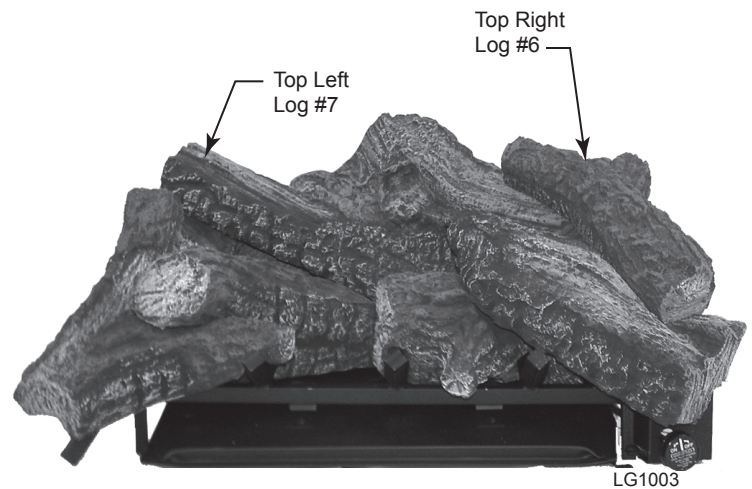

Figure 12
6. Rest top right log (#6) on back log and bottom right log. *Figure 12*
7. Place top left log (#7) on bottom left log. *Figure 12*